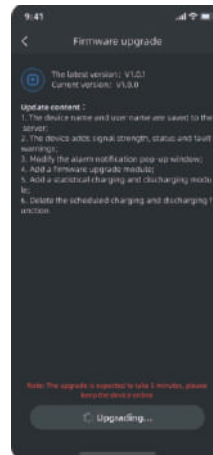

Figure 5
5)Figure 5: Displaying upgrade in progress;Keep the device online during the upgrade process;Automatically exit the firmware upgrade page after success;Failed, please retry according to the prompt.